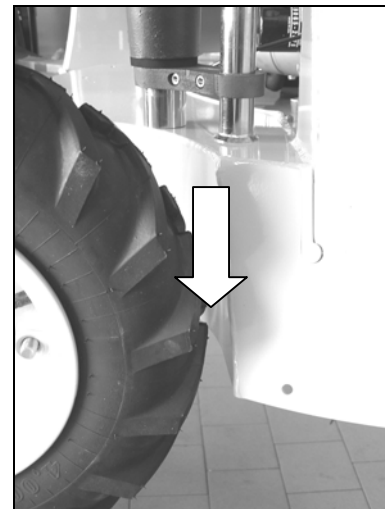

Fig. 88
- Check the clearance between the wheel and the frame (Fig. 88)